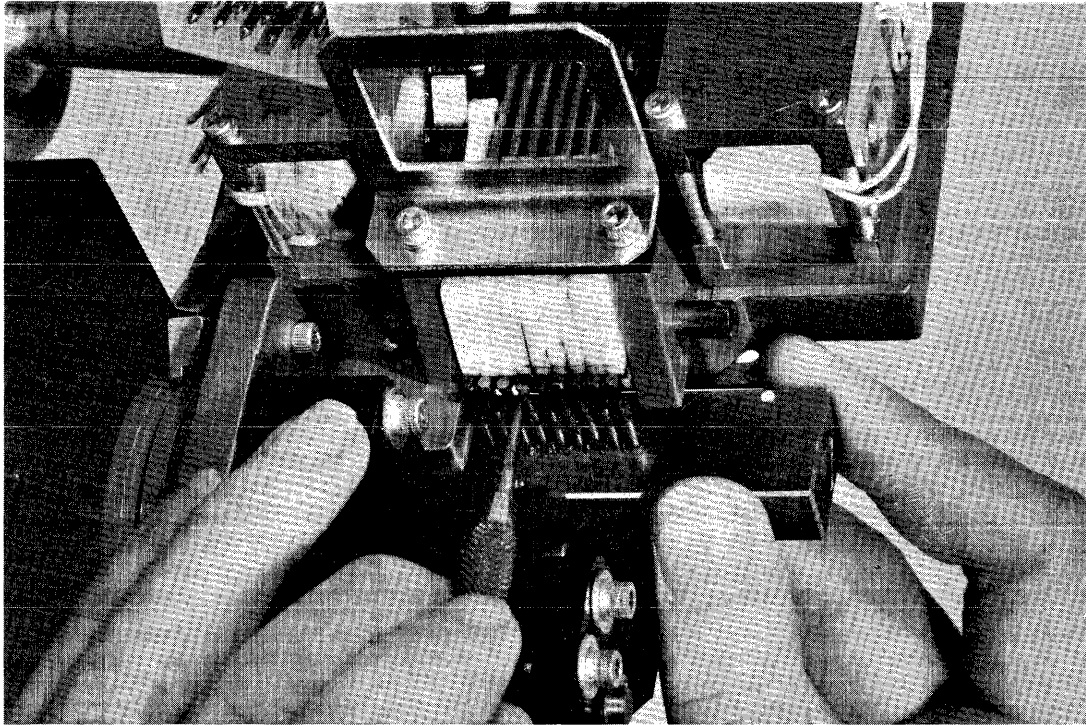
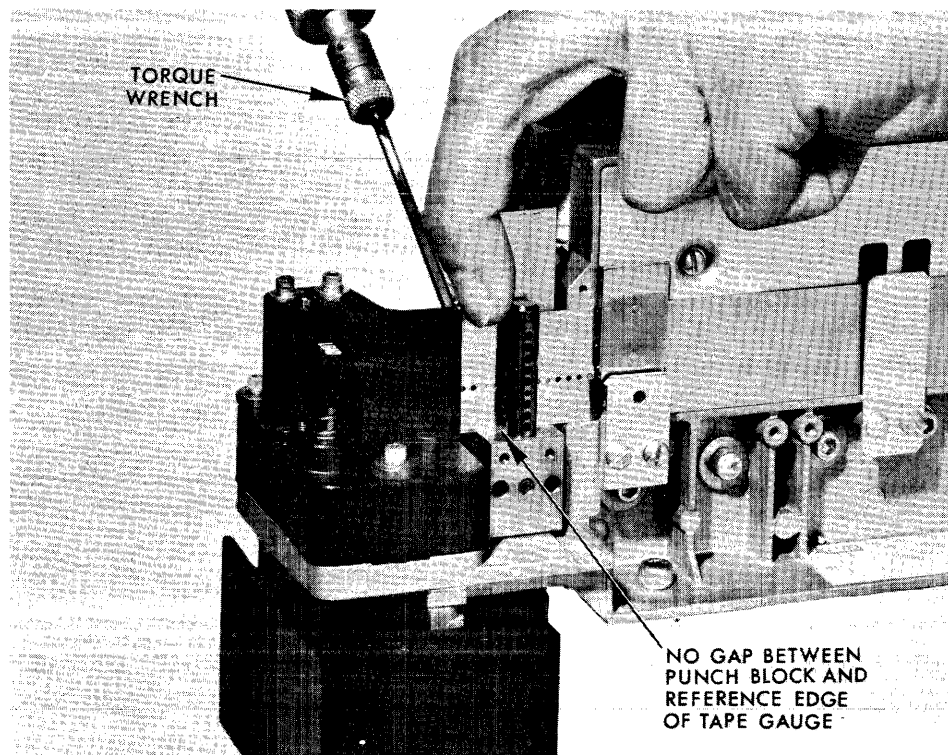

Figure 6-3. Punch Pin Alignment and Insertion Into Pin Driver.
Figure 6-4. Installation of Punch and Pin Block Assembly.
- a. Remove the screw (F) which holds the chad tube to the punch and pin block assembly and remove the chad tube.
- b. Remove the two 6-32 x 1/2 socket head screws (K), lock and flat washers which hold the punch and pin block assembly to the perforator housing. Remove the old punch and pin block assembly.
- e. Align all pins so that they are perpendicular to the punch block. See Figure 6-3.
- g. Install the punch and pin block assembly to the perforator housing using the two screws (K) and new lock washers. REMEX recommends that new lock washers (P/N 713541-304) be used each time a punch block is installed. Do not tighten screws.
- h. Install REMEX tape gauge so that the reference edge of the gauge is flush against the reference edge of the perforator housing. Move the punch block as close to the housing as possible. Holding firmly on the gauge pull up on the punch block so that there is no gap between the reference edge of the punch block and the gauge. Refer to Figure 6-4. Tighten the two screws (K). Use a torque wrench and set the screws to 20 in/lbs.